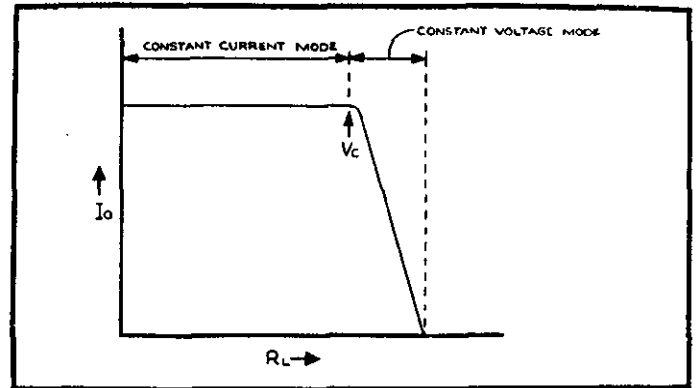

FIGURE 10. Volt Limit Characteristic
c. Constant Voltage Mode. The Model 225 can be adjusted for a compliance voltage from 10 to 100 volts. The voltage limiting will occur if the load resistance is such that $I_{ORL} = V_C$. The instrument will automatically switch into a constant voltage mode (the LIMIT lamp will be lighted) such that the output voltage will not exceed the compliance setting. If the Model 225 is used as a current sink, an output voltage of 130 volts could be developed regardless of the compliance setting. The voltage limiting characteristic can be shown as in Figure 10.